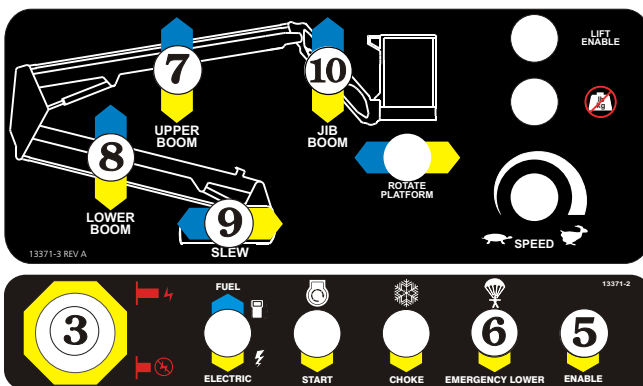

Figure 11.6 - Platform Control Box, Electric Controls
3. Set the **Emergency Stop** switch ③ to ON (see Figure 11.6).